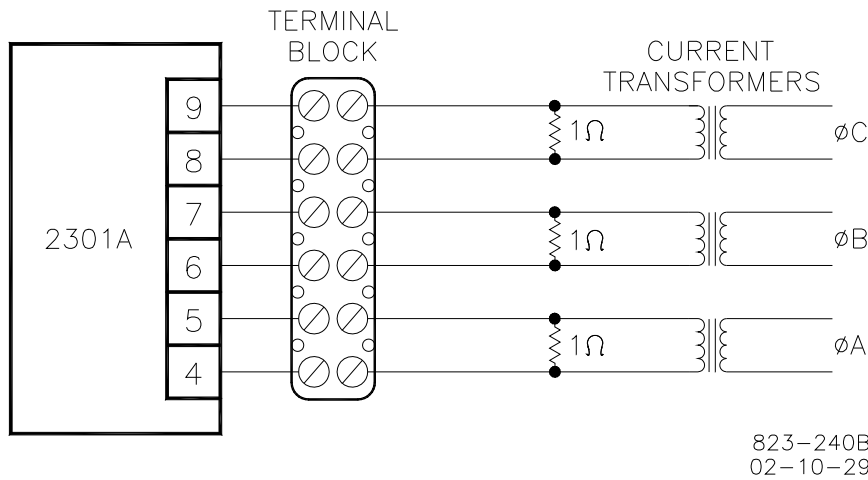

Figure 3-2. Temporary Wiring for Transformer Phase Correction
**HIGH VOLTAGE**—Never disconnect any wire attached to load sensor terminals 4 through 9 when the prime mover is running unless temporary 1  $\Omega$ , 5 W resistors are installed as shown in Figure 3-2, and all load is removed. The current transformers can develop dangerously high voltages when open circuited while the prime mover is running.
The Phase Correction Procedure requires that the prime mover be shut down many times to disconnect the current transformers. For convenience, a temporary method of connecting the current transformers shown in Figure 3-2 is recommended. Connecting a 1  $\Omega$ , 5 W burden resistor across each current transformer allows the current transformers to be disconnected from the terminal strip with the prime mover running, after removing all load.
**HIGH VOLTAGE**—The current transformers can develop dangerously high voltages. Do not disconnect a current transformer while the prime mover is running unless temporary 1  $\Omega$ , 5 W resistors are installed as shown in Figure 3-2, and all load is removed.
If the temporary burden resistors described above and shown in Figure 3-2 are not used, the prime mover **MUST** be shut down in addition to removing the load in the following procedure.